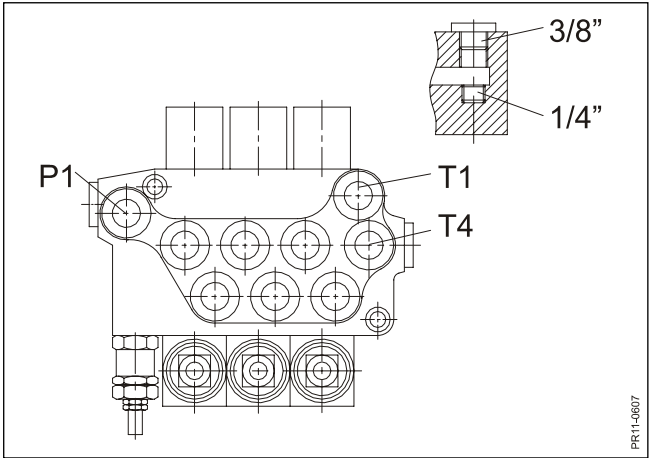

Fig. 4.5
- Fig. 4.5** If a tractor with John Deere hydraulics is used T1 is closed with 1 piece 1/4" and 1 piece 3/8" plug.